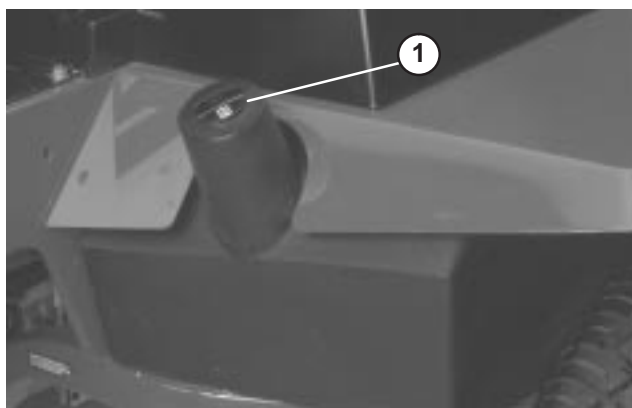

Figure 59
2. Remove drain plug from bottom of reservoir (Fig. 59) and let hydraulic fluid flow into drain pan. Reinstall and tighten plug when hydraulic fluid stops draining.